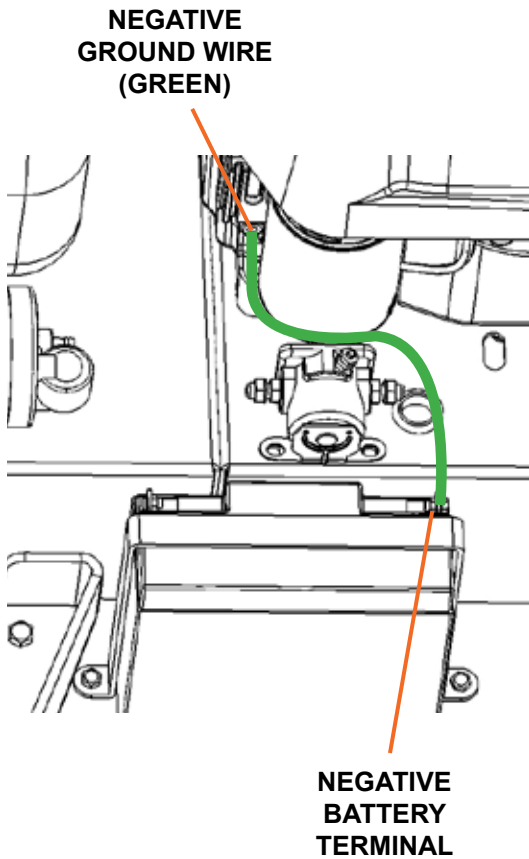

Figure 5
1. Connect the negative wire to the negative terminal with the nut and bolt on the battery with two 5/16" wrenches (see Figure 5).